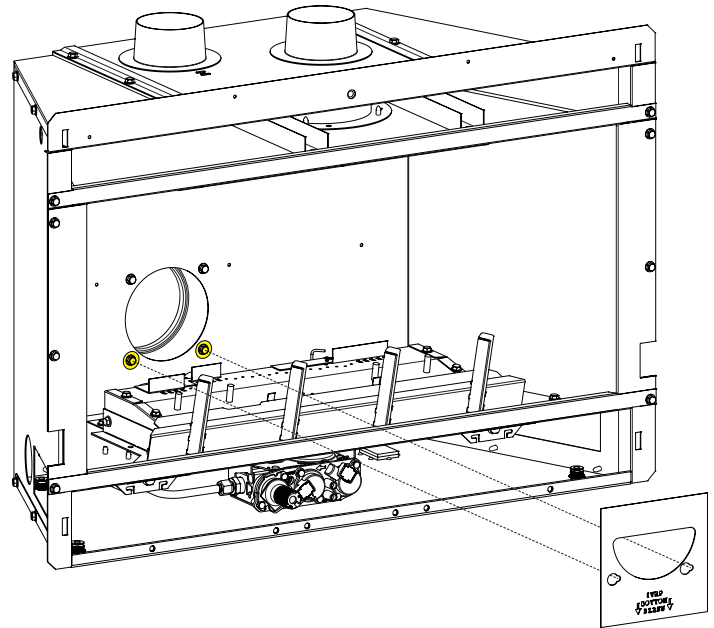

Figure 14
4. Loosen the two bottom screws that secure the inlet air duct collar at the rear of the firebox. **See Figure 14.**
5. Place the inlet air restrictor plate over the air intake opening. Align the plate with the loosened screws, shift the plate on the keyhole slots, then retighten the two screws. **See Figure 14** for locating the inlet air duct opening.